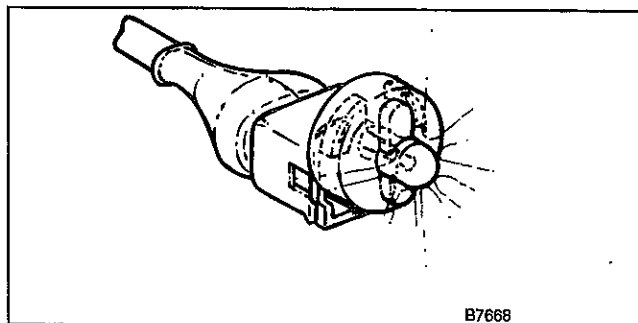

Fig. 18. Special LED fuel injector tester connected to injector harness.
2. Connect an LED test light, an injector tester, or a digital voltmeter across the connector terminals. See Fig. 18. When the engine is cranked, the LED should flash or the meter should indicate some voltage.